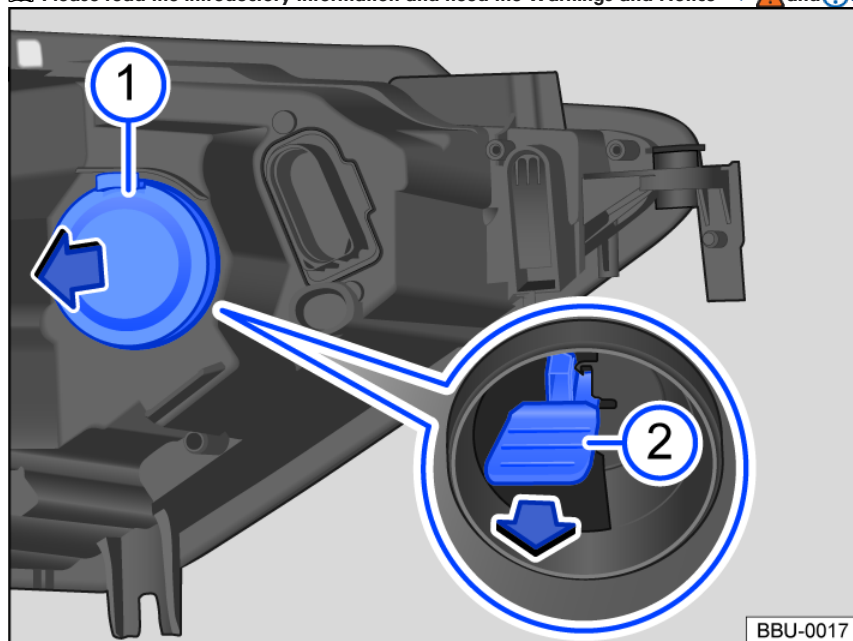

Fig. 135 In the right-side of the engine compartment: Rear side of the headlights.
3. Remove rubber cover *fig. 135* .
4. Pull out the lamp holder *fig. 135* by the handle in the direction of the arrow. At the same time, press the handle slightly up and down alternately, in order to removal.
6. Carefully insert the lamp holder in the headlight and press it forwards until it perceptibly engages *fig. 135.*